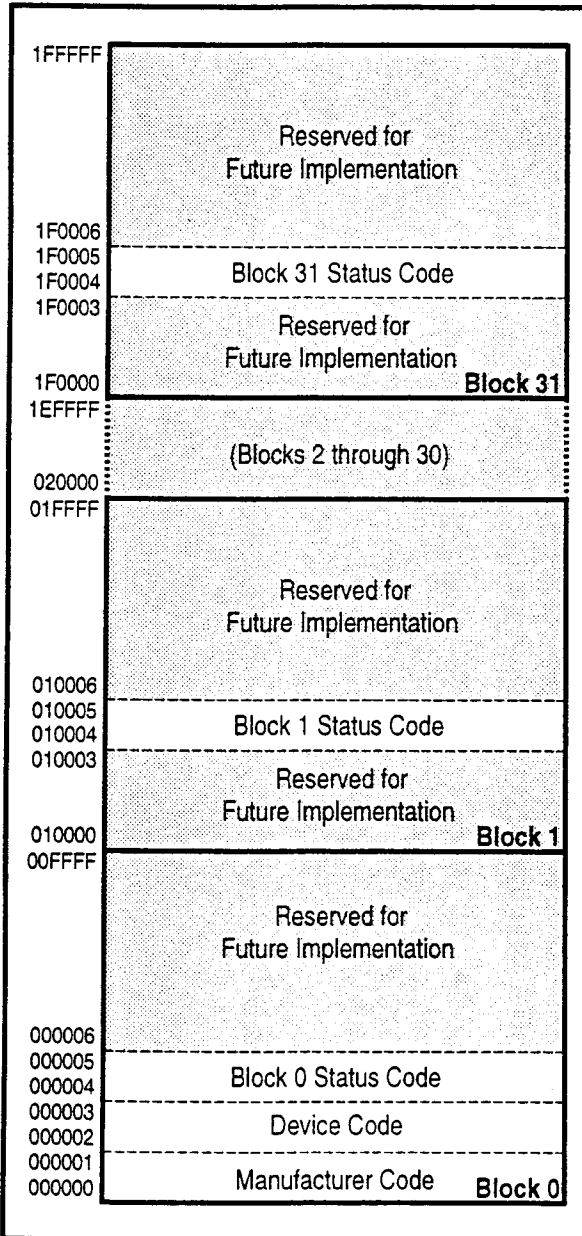

Figure 8. Device Identifier Code Memory Map
The read identifier codes operation outputs the manufacturer code, device code, block status codes for each block (see Figure 8). Using the manufacturer and device codes, the system CPU can automatically match the device with its proper algorithms. The block status codes identify locked or unlocked block setting and erase completed or erase uncompleted condition.
| Read Identifier Codes | | V _{IH} | V _{IL} | V _{IL} | V _{IL} | V _{IH} | See Figure 8 | X | Note 5 | High Z |
IA=Identifier Code Address: see Figure 8.
The identifier code operation is initiated by writing the Read Identifier Codes command. Following the command write, read cycles from addresses shown in Figure 8 retrieve the manufacturer, device, block lock configuration and block erase status (see Table 5 for identifier code values). To terminate the operation, write another valid command. Like the Read Array command, the Read Identifier Codes command functions independently of the V_{PP} voltage and $RP\#$ must be V_{IH} . Following the Read Identifier Codes command, the following information can be read:
1. X selects the specific block status code to be read. See Figure 8 for the device identifier code memory map.